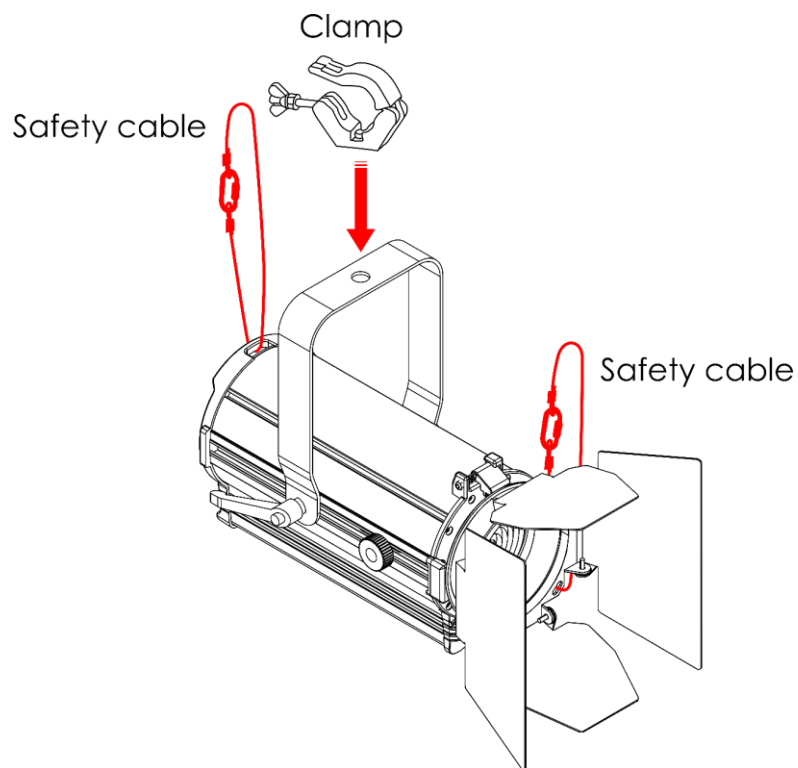

Fig. 07
- 01) Use a clamp to attach the device to the supporting structure, as shown in Fig. 07. Make sure that the device cannot move freely.
- 02) Secure the device with a secondary suspension, for example a safety cable. Make sure that the secondary suspension can hold 10 times the weight of the device. If possible, the secondary suspension should be attached to a supporting structure independent of the primary suspension. Put the safety cable through the **safety eye (07)**, as shown in Fig. 07.